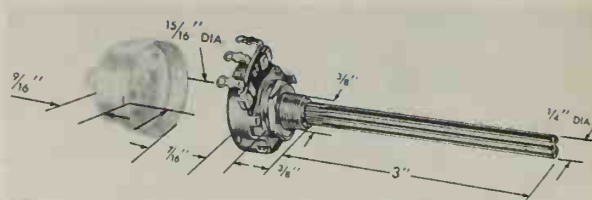

Fig. 3-24. A typical potentiometer and its schematic symbol. (Centralab)
3. **VARIABLE RESISTORS** have wide application in the field. One popular type, the **POTENTIOMETER**, is shown in Fig. 3-24, with its circuit symbol. The resistance unit of this device may be a molded carbon ring for low power or a wire-wound circular form for high power applications. A contact arm, controlled by a shaft and knob, rides in contact with the resistance unit. A desired amount of resistance may be selected by turning the knob. There are three connections to this component; one at each end of